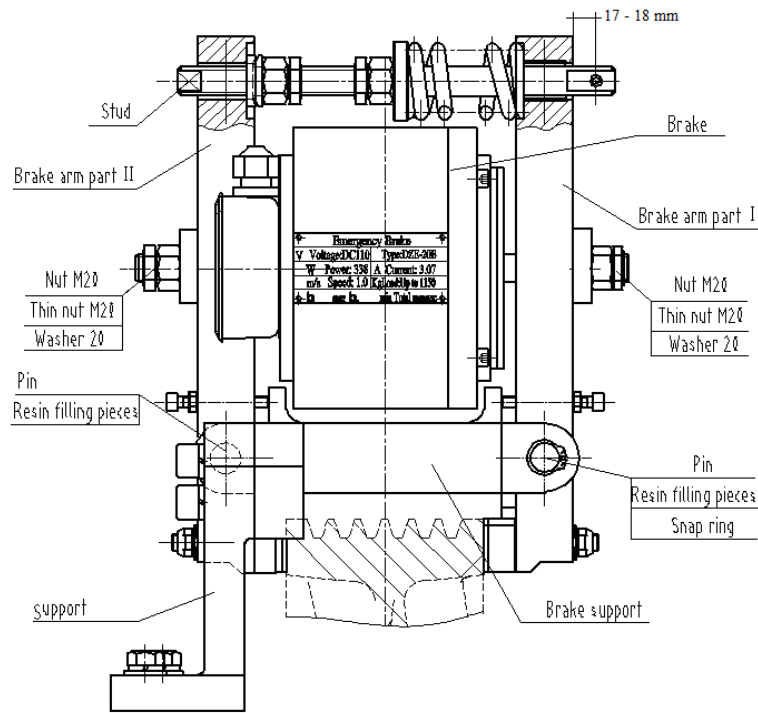

Figure 33 Emergency Brake Installation
6. Place the Brake arm part I into Brake Support. See figure 33.
7. Put the two (2) Resin filling pieces into the gap which is between Brake Arm Part I and Brake Support (one on each side).
9. Install the two (2) snap rings onto the Pin.